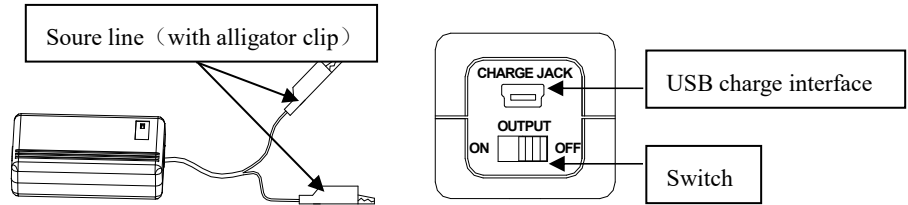

Figure 25 CA portable DC power supply
Step 1: Connect the 24V DC Power Supply with the instrument according to figure 25.